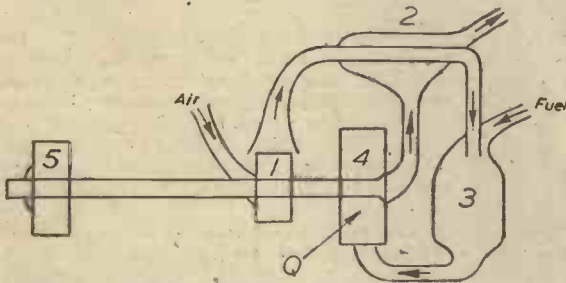

Fig. 1.—General diagram of an internal-combustion turbine engine.
(3) (Fig. 1), and these actuate the gas turbine (4); in its turn the turbine drives the air compressor (1), which supplies the air to the combustion chamber; the turbine also drives the car (or boat) by some sort of hydraulic coupling (5).